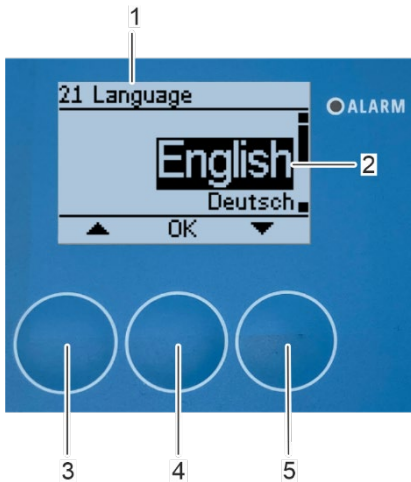

Fig. 124: Set language
⇒ The "21 Language" submenu appears on the display (Fig. 124/1)
3. Select the preferred language (Fig. 124/2) with the arrow keys [up] (Fig. 124/3) and [down] (Fig. 124/5).
4. Confirm the selection with [OK] (Fig. 124/4).